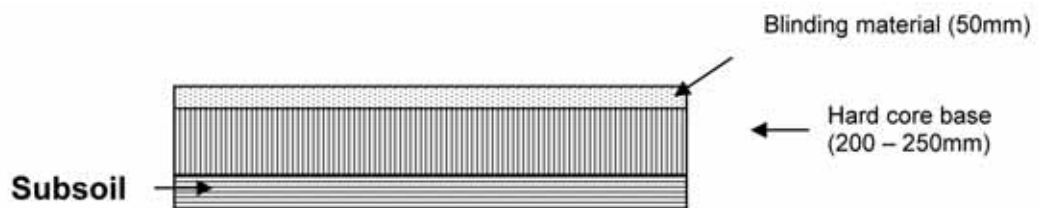

Figure 1: *Hardcore roadway / track*
- The roadway should be compacted with about 50 to 75mm of a fine material for example, quarry blinding (Figure 1). This surface layer needs to be laid evenly and compacted with a vibrating roller preferably in damp conditions allowing improved binding of materials.